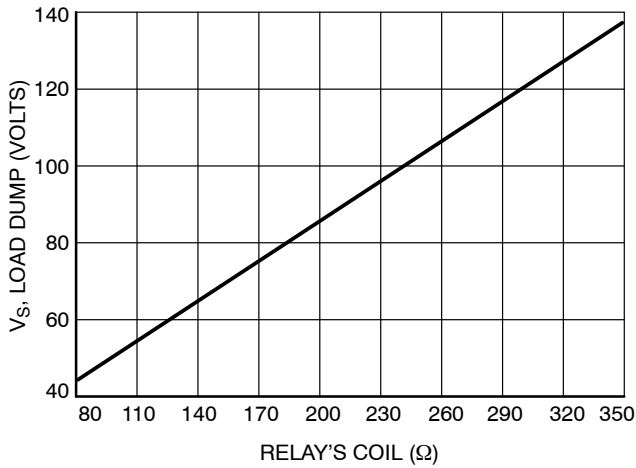

Figure 4. Load Dump Capability versus Relay's Coil dc Resistance
4. For relay's coils/inductive loads higher than 80 Ω , see Figure 4.